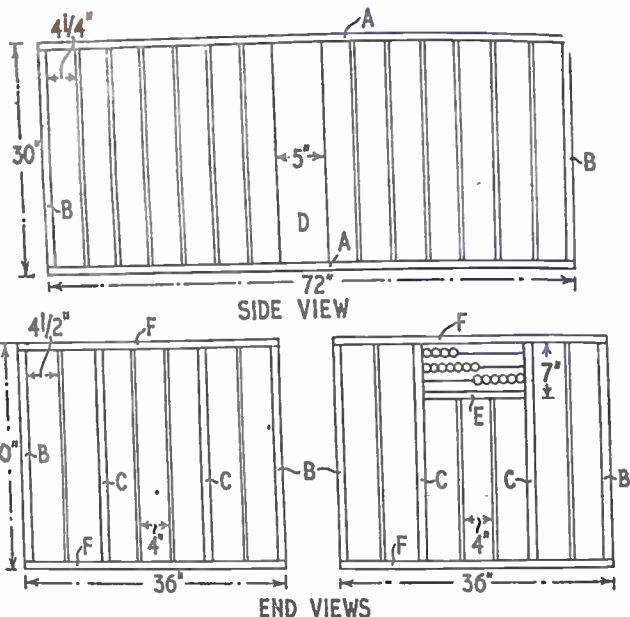

Fig. 1
The main dimensions are shown in the side view and end views in Fig. 1. The beads are optional and if these are not required the short cross-piece (E) can be dispensed with and the two dowels run right up to the top, thus making both ends identical.
Commencing with the sides, make up two as shown in Fig. 1. The main pieces, i.e. pieces (A) and (B), are $\frac{1}{2}$ in. square and are marked out with the positions of the $\frac{1}{4}$ in. diameter dowels and
The ends are made up in a similar manner, with two 3/4 in. square pieces (C) instead of centre panels. If you wish to include coloured beads, allowance must be made for these on one end. Put a short cross-piece (E) in position as indicated in Fig. 1. This should be about 7 in. down from the top.